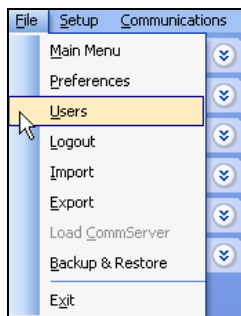

Figure 1.2.1
1. In the toolbar at the top of the screen select **File** and then scroll down to the word **Users** and click on it (Figure 1.2.1).